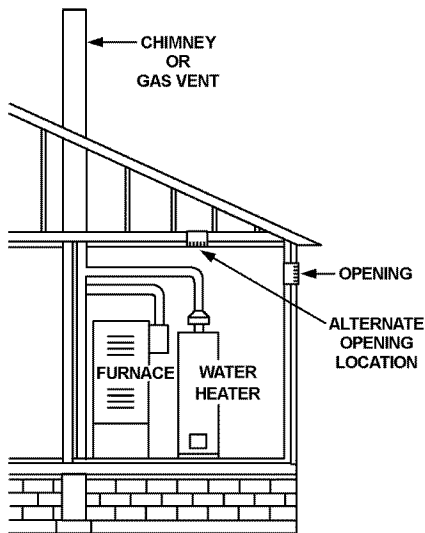

FIGURE 13A.
- Alternatively a single permanent opening may be used when communicating directly with the outdoors, or with spaces that freely communicate with the outdoors. The opening shall have a minimum free area of 1 square inch per 3,000 BTU per hour (8.3 cm²/kW) of total input rating of all equipment in the enclosure. See Figure 13A.